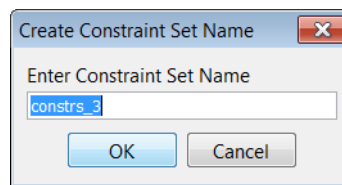

Figure 3-10: Create Constraint Set Name Dialog Box
- To create a constraint set, click the drop-down menu next to the Specify Constraint Set field, and select **Create Constraint Set**. In the Create Constraint Set Name dialog box (Figure 3-10), enter a name for the constraint set, and click **OK**.